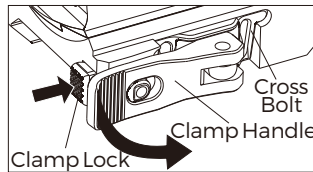

Fig 6-1
2. Designed with our patented nonlinear cam clamping system, no tools are required for attaching to a rail. Push locking button, lift up handle to loosen the locking bar. To mount sight on rail, push the handle down, locking button will automatically engage. The installation is complete.(fig 6-1)